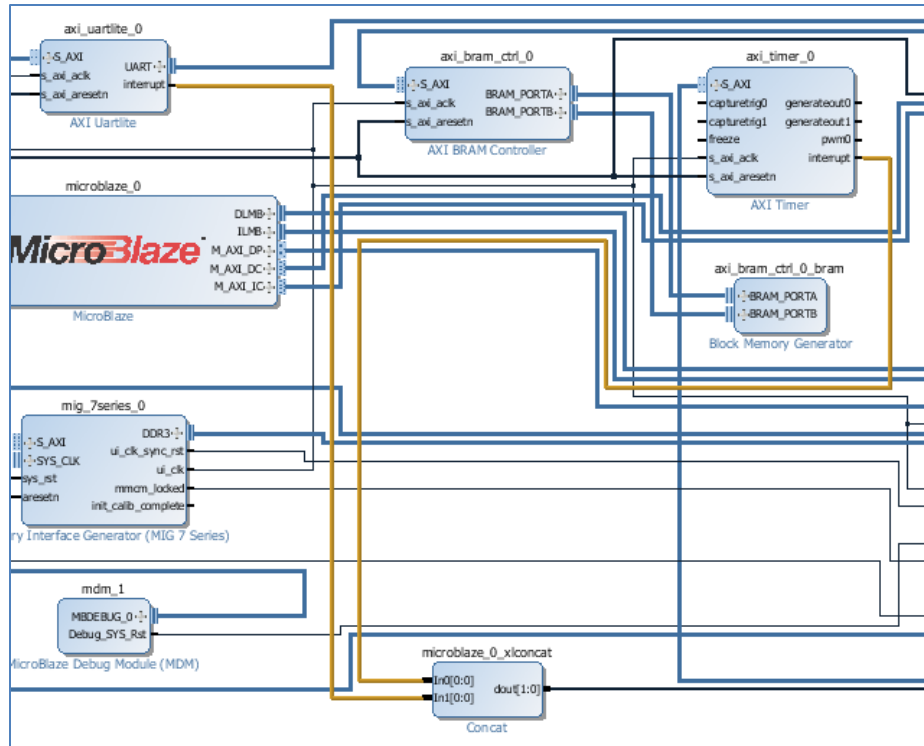

Figure 112: Connected Interrupt Ports
2. Connect the interrupt pin of AXI Uartlite to the input pin **In1[0:0]** of Concat. The connections should look like **FIGURE 112**.